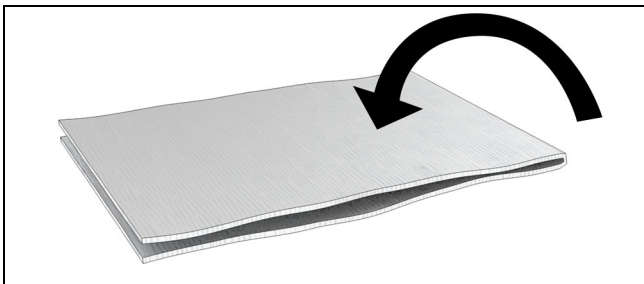

Figure 13 Fold sill pan flashing in half.
2. Fold material in half to crease. See Figure 13.